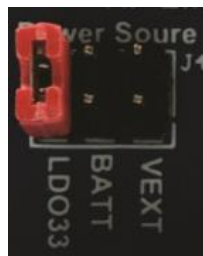

Figure 7. Power Source Selection
6. System power selection: As shown in the Figure 7, if the jumper is connected to the LDO33, the power is supplied by the USB port; if the jumper is connected to the BATT, the power is supplied by the battery holder, which is powered by two 1.5V AA batteries on the back of the board; if the jumper is connected to the VEXT, the power is supplied by the external power as shown in Figure 9. It should be noted that the maximum operating voltage of the external power is 3.6V.